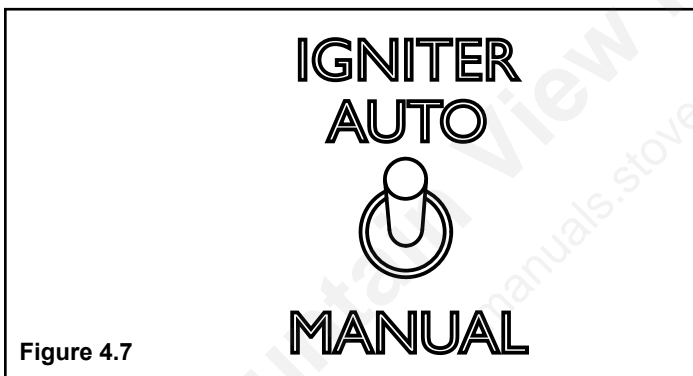

Figure 4.7
3. Flip the Igniter Switch up into the "AUTO-LIGHT" position, Figure 4.7.